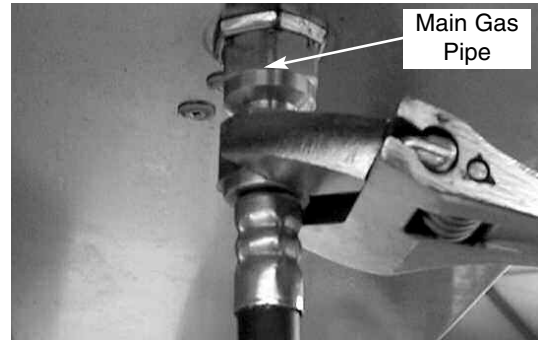

Fig 18
1. Remove the LP regulator from the main gas pipe using an adjustable wrench. Located inside the cart on bottom of grill head. (See Fig. 18)